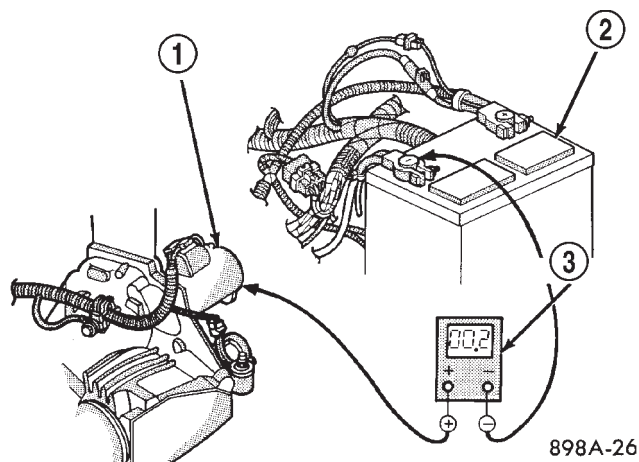

Fig. 6 Test Starter Ground - Typical
(5) Connect positive lead of voltmeter to starter housing. Connect negative lead of voltmeter to negative battery terminal post (Fig. 6). Rotate and hold ignition switch in Start position. Observe voltmeter. If reading is above 0.2 volt, correct poor starter to engine block ground contact. **Note: Certain diesel equipped models use dual batteries. If equipped**